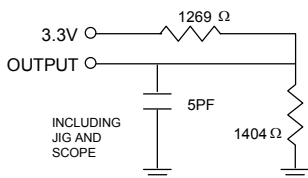

FIGURE 1B
5. Transition is measured $\pm 500mV$ from steady state with $C_L = 5pF$ as shown in Figure 1B.
10. Transition is measured $\pm 500\text{mV}$ from steady state with $C_L = 5\text{pF}$ as shown in Figure 1B. The parameter is guaranteed but not 100% tested.